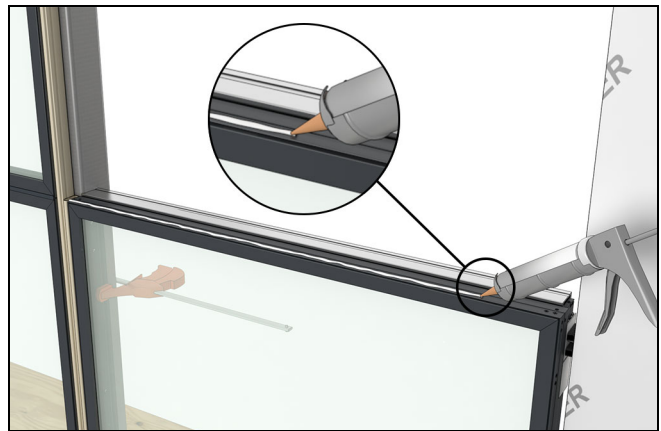

Figure 141
26. Apply a bead of sealant on top of the B1 exterior. See Figure 141.